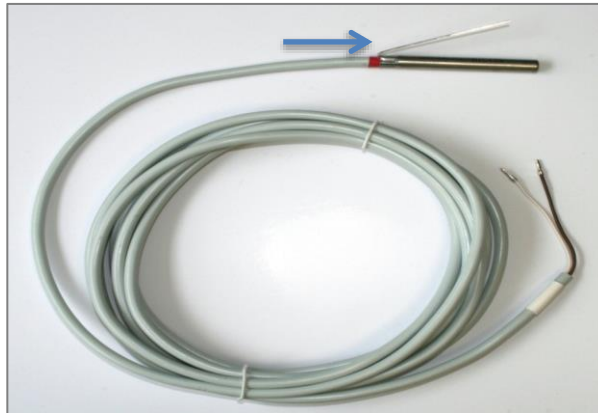

Figure 12: Temperature sensor with clamping strap (see pointing arrow)
- The temperature sensor has a clamping strap to secure positioning in the immersion sleeve. Before installing bend the clamping strap in the correct position (see figure 12).